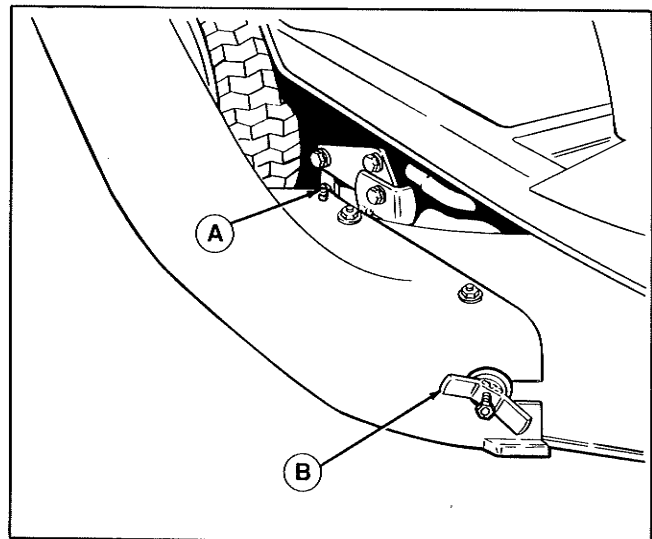

Figure 4.
8. Place adapter over rear carriage bolt (A, figure 4). Position front slot between mower deck and wing nut (B) and tighten wing nut.